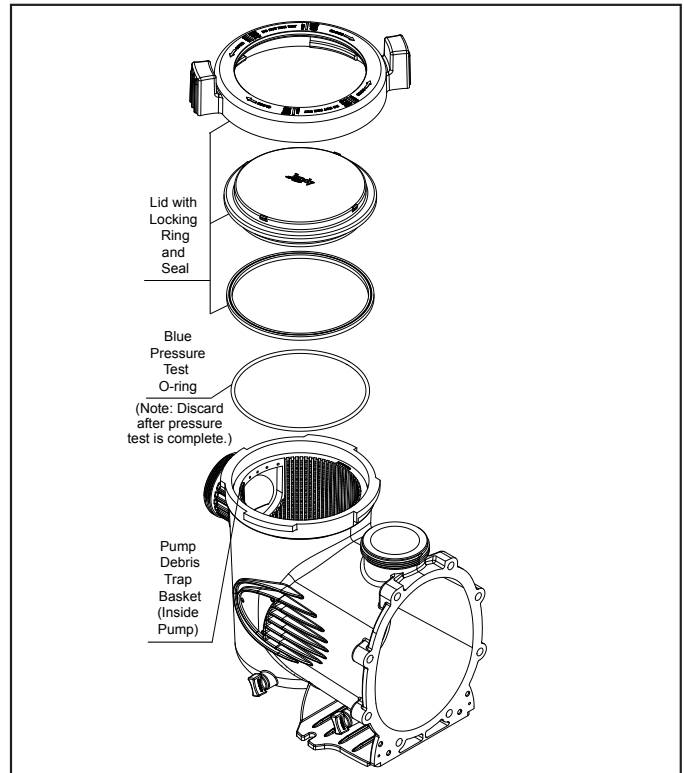

Figure 15. Exploded View with Blue Pressure Test O-ring (VSSHP Pump Models Only)
4. Following the markings on the locking ring, turn the ring counter-clockwise until the 'START' markings align with the ports. See Figures 15.